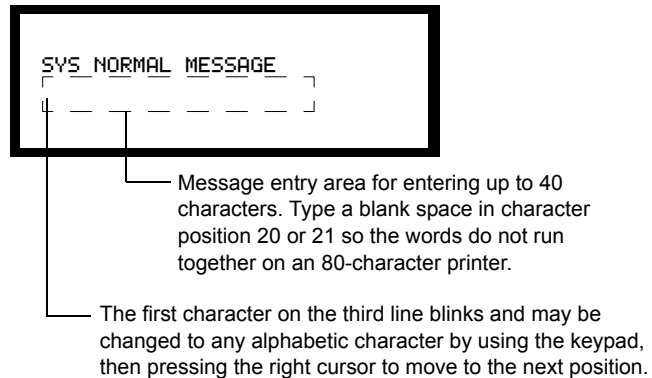

Figure 72 Message Change Screen
1. From the Program Change screen (Figure 53 on page 71), select option 4 (Message) to display the Message Change screen (Figure 72).